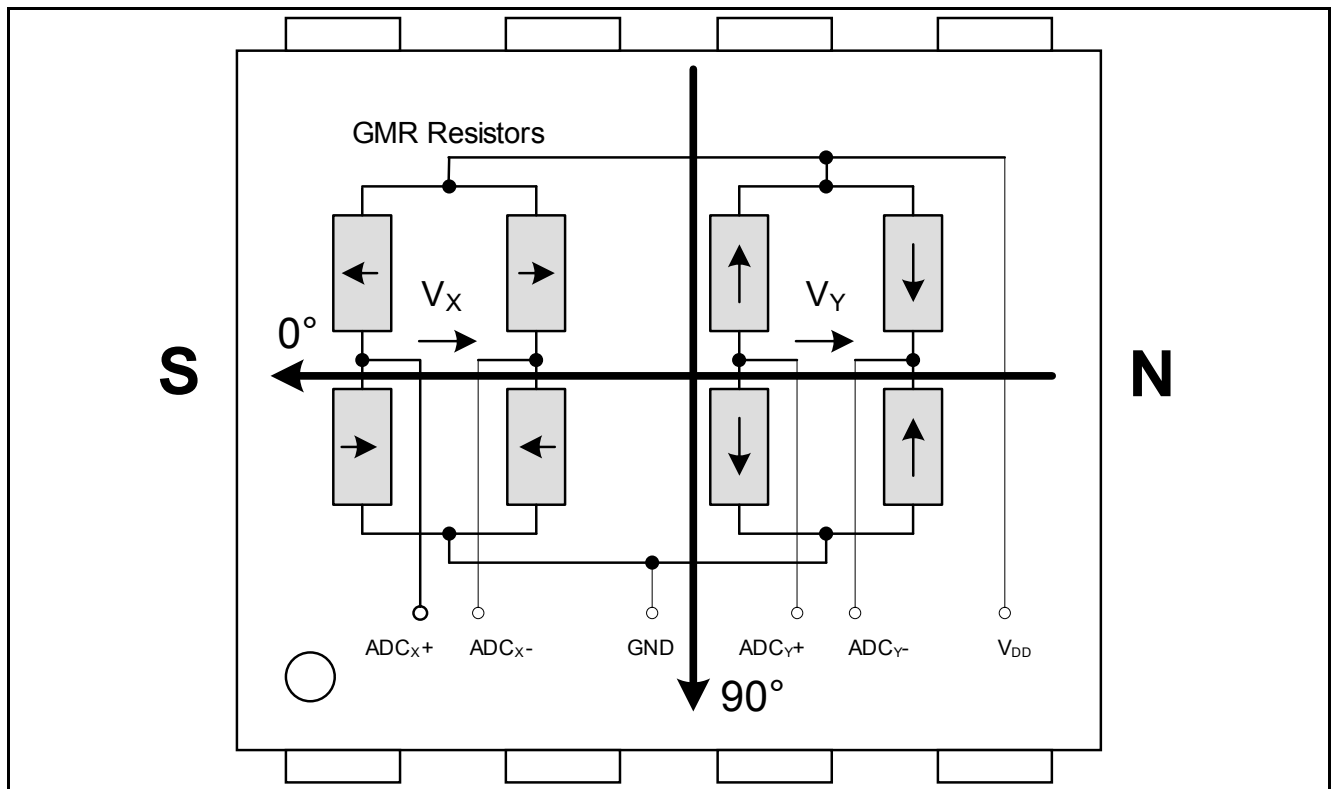

Figure 1 Sensitive bridges of the GMR sensor
*Note: In **Figure 1**, the arrows in the resistors represent the magnetic direction which is fixed in the Reference Layer. If the external magnetic field is parallel to the direction of the Reference Layer, the resistance is minimal. If they are anti-parallel, resistance is maximal.*